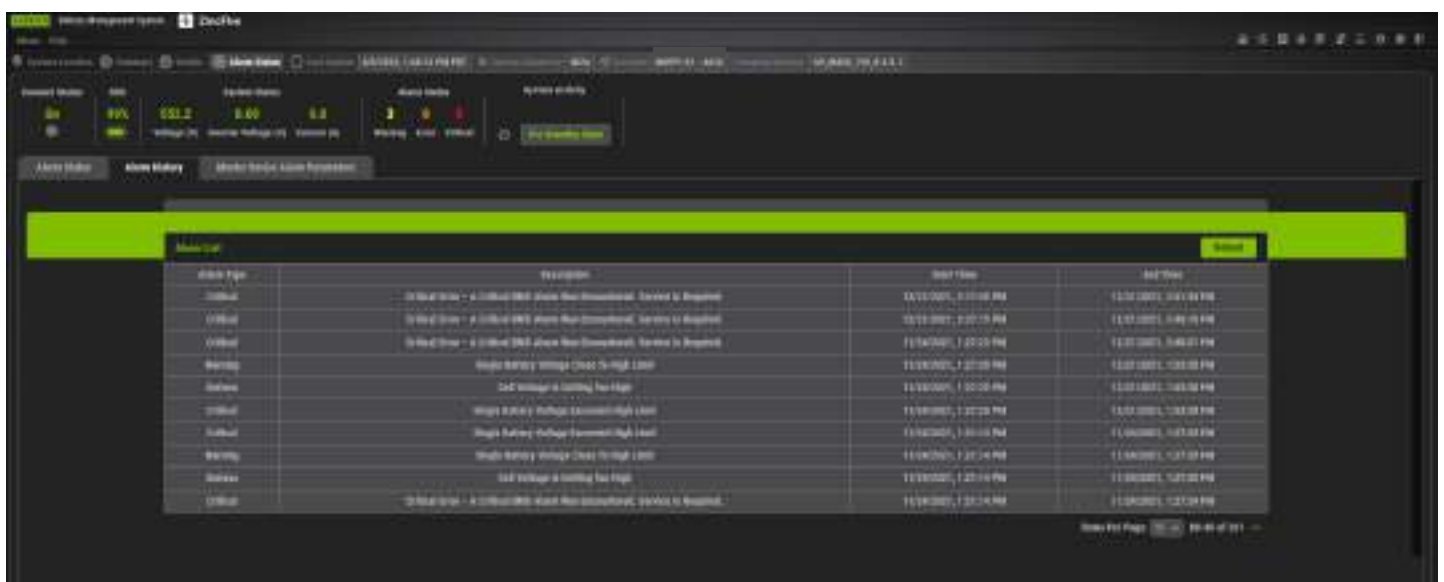

Figure 18 - Alarm Status (Top), Figure 19 - Alarm History (Bottom).
- In Error State, the system displays the alarm (pg. 25, Figure 18) and trips the breaker.